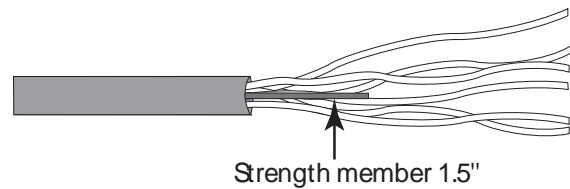

Figure 3
3. Cut the strength member(s) 1.5" from the ring cut. (Fig. 3)